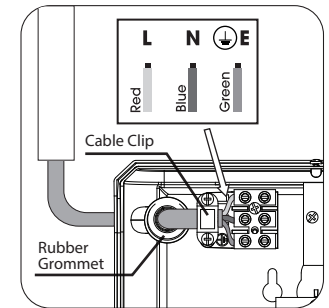

Fig. 4
2. Connect the cable to the Terminal Block as follows (Fig. 4) :